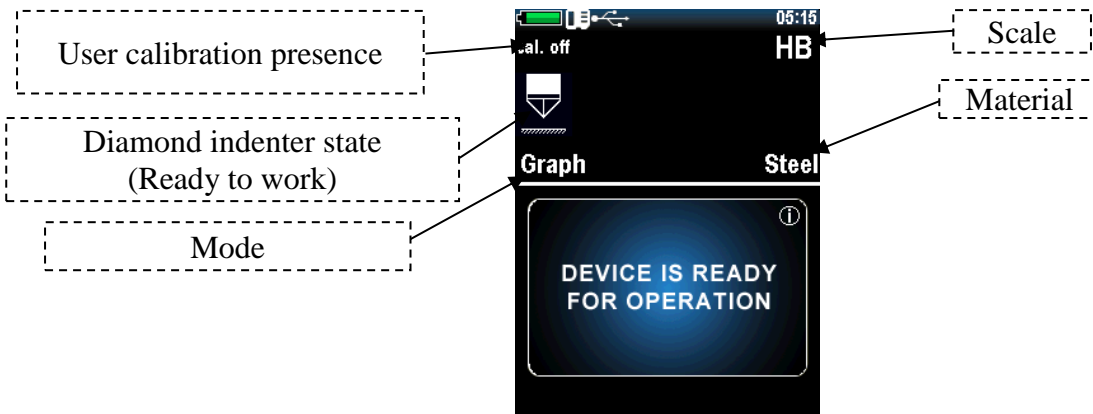

Figure 2.5 – <MEASURING> section
4. Since the probe is already connected, the device immediately goes to the <MEASUREMENTS> section (figure 2.5).